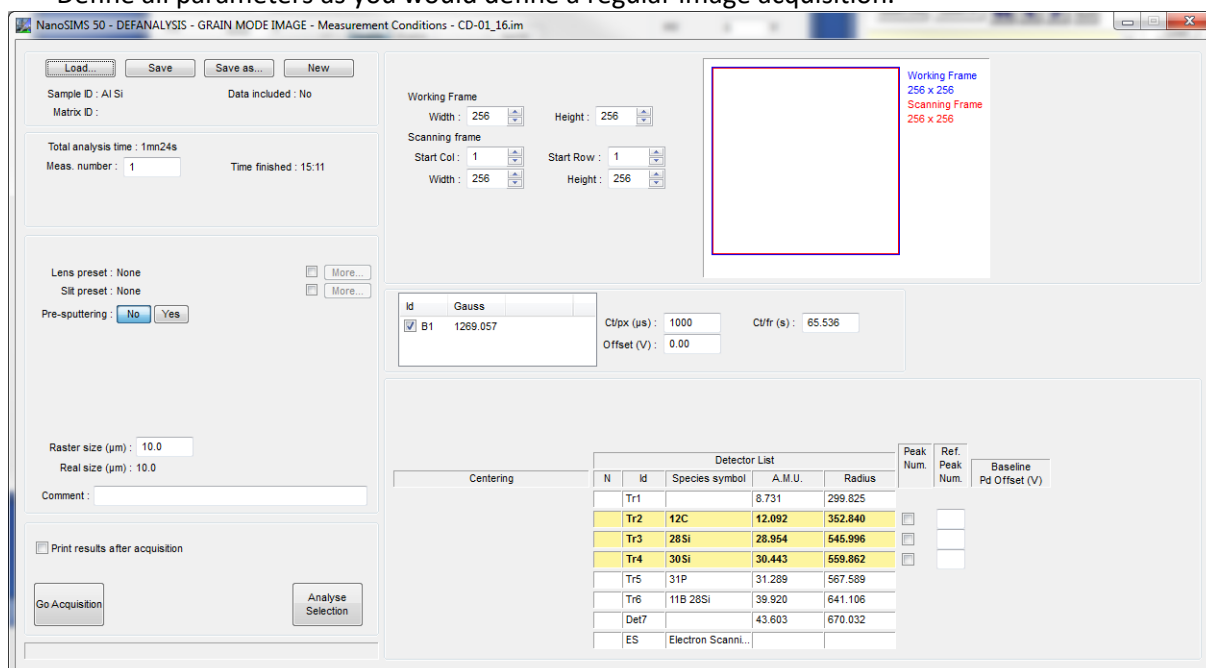

Figure 363: first step of the Grain mode
- When selecting this mode from Def Analysis, the Def Analysis window will appear as a usual “Image” mode window (Figure 363), allowing the acquisition of a single frame image acquisition (“Meas. number” is fixed = 1) in order to image the general area where the user will then select the grains. Define all parameters as you would define a regular image acquisition.